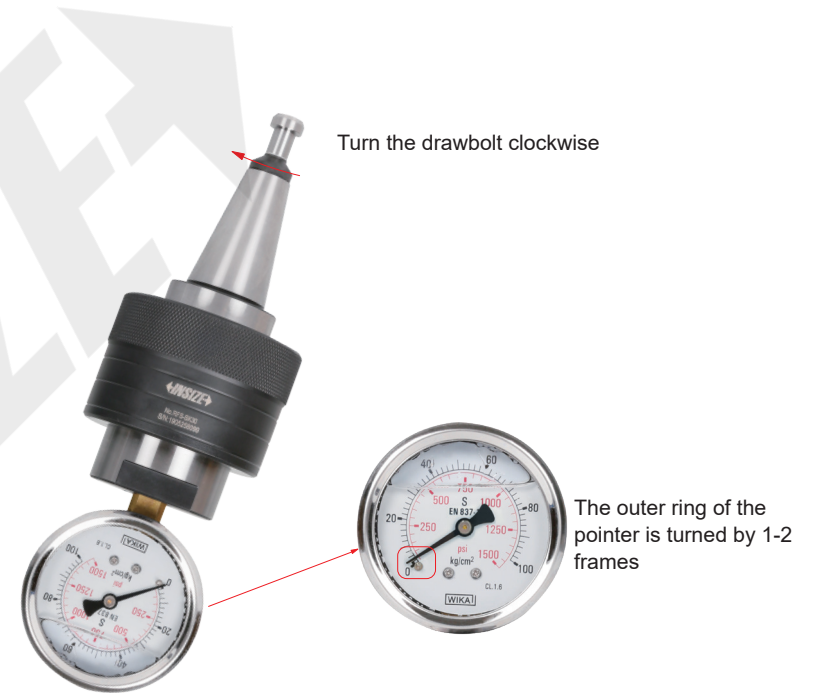

Fig.1
- ① To ensure the accuracy of measurement the pull force, Spindle Tension Meters has to be used in the pre-pull condition.
- ★② Use an open-end wrench to turn the drawbolt and lock it clockwise to the outer 1-2 frames of the pointer (as shown on Fig.1).
- ★③ The finger indicated the value of the outer ring times 10 , means the value is pull force measured.